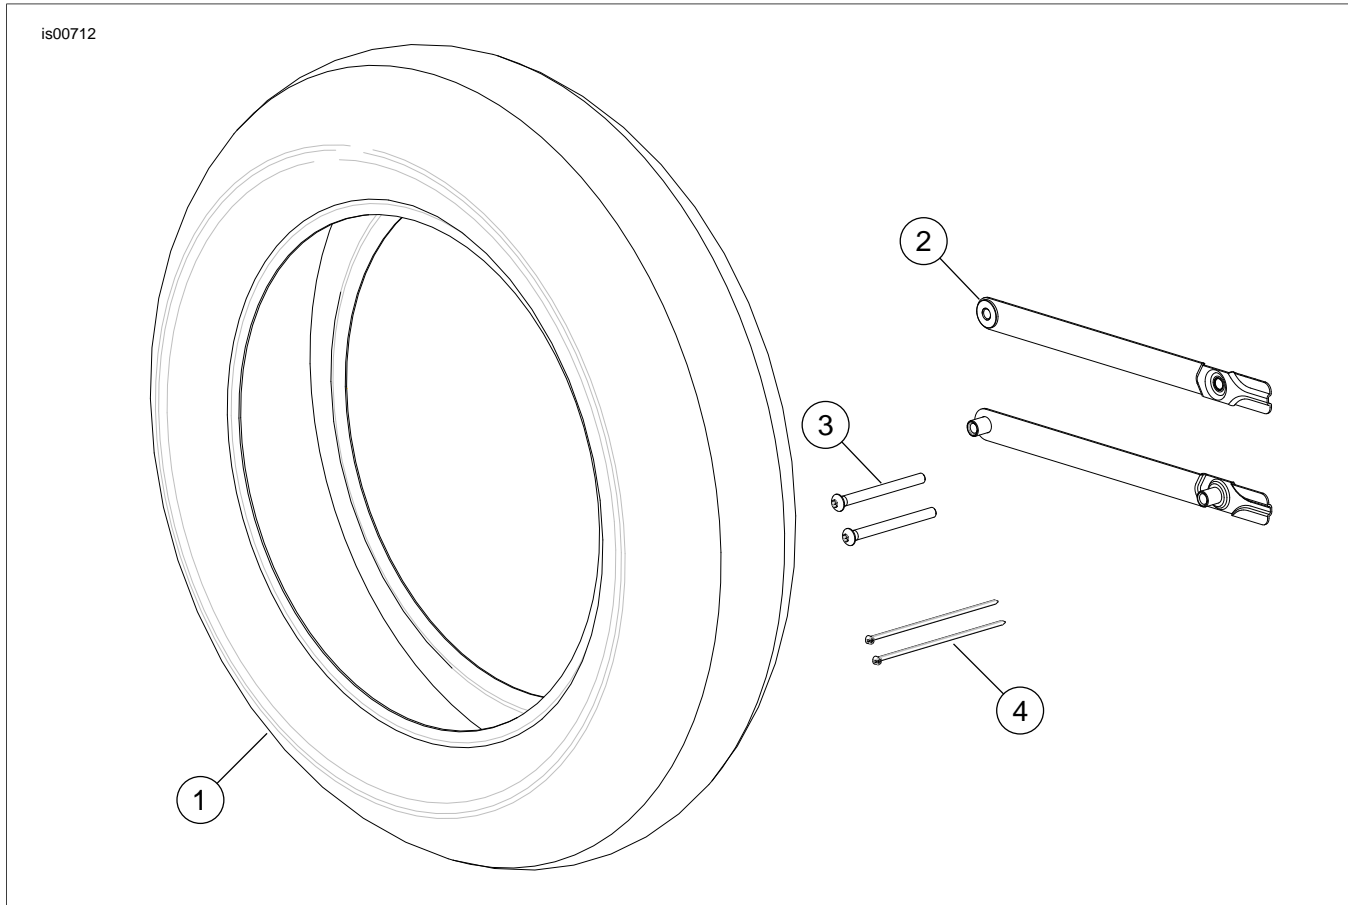

Figure 9. Service Parts for Wide Tire Kit
See Figure 9 and Table 1.
8. Remove screw (8) and stock rear fender bracket (2). Save the screw, and discard rear fender bracket.
9. Install rear fender bracket from kit (6) loosely with screw (8) from previous step.
10. See Figure 9. Apply 2-3 drops of Loctite 243 (blue) to the screw (3) from the kit, route the turn signal wire into the fender and loosely install turn signal using the screw.